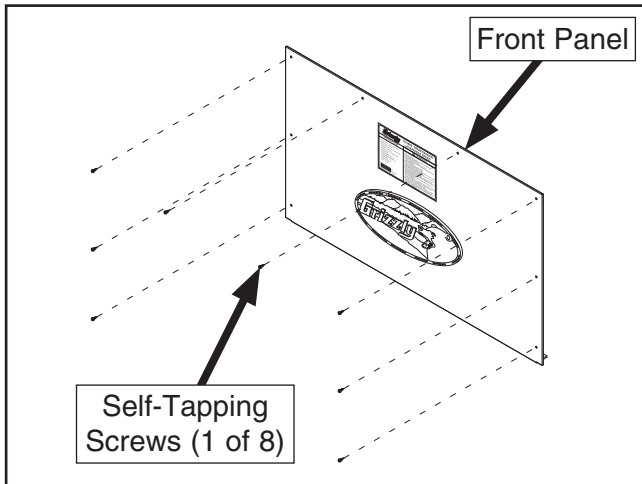

Figure 16. Diagram of front panel and screw locations.
- G1066Z Only:** Attach front panel to machine base with (8) #8 x $\frac{3}{8}$ " self-tapping screws, as shown in **Figure 16**.